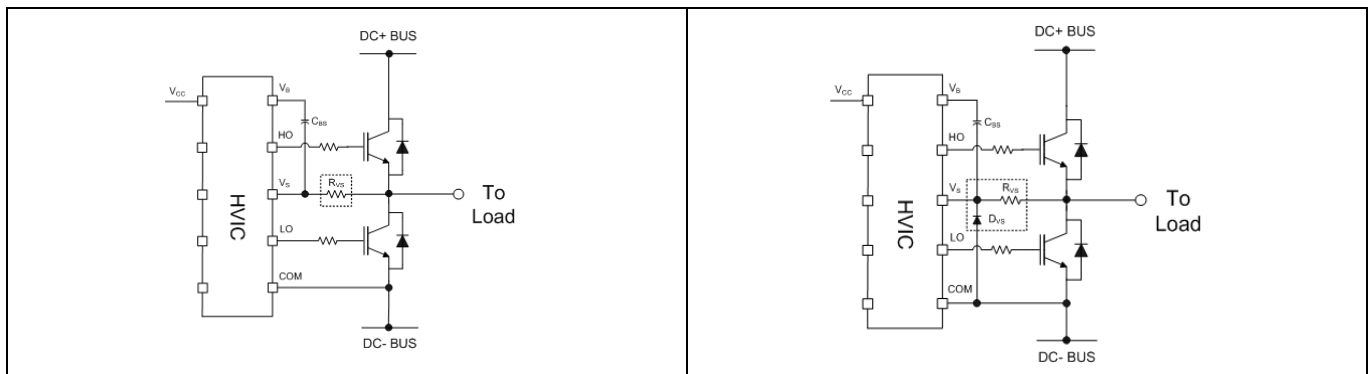

**Figure 22** Avoid antenna loops
**Gate Drive Loops:** Current loops behave like antennas and are able to receive and transmit EM noise (see Figure 22). In order to reduce the EM coupling and improve the power switch turn on/off performance, the gate drive loops must be reduced as much as possible. Moreover, current can be injected inside the gate drive loop via the IGBT collector-to-gate parasitic capacitance. The parasitic auto-inductance of the gate loop contributes to developing a voltage across the gate-emitter, thus increasing the possibility of a self turn-on effect.